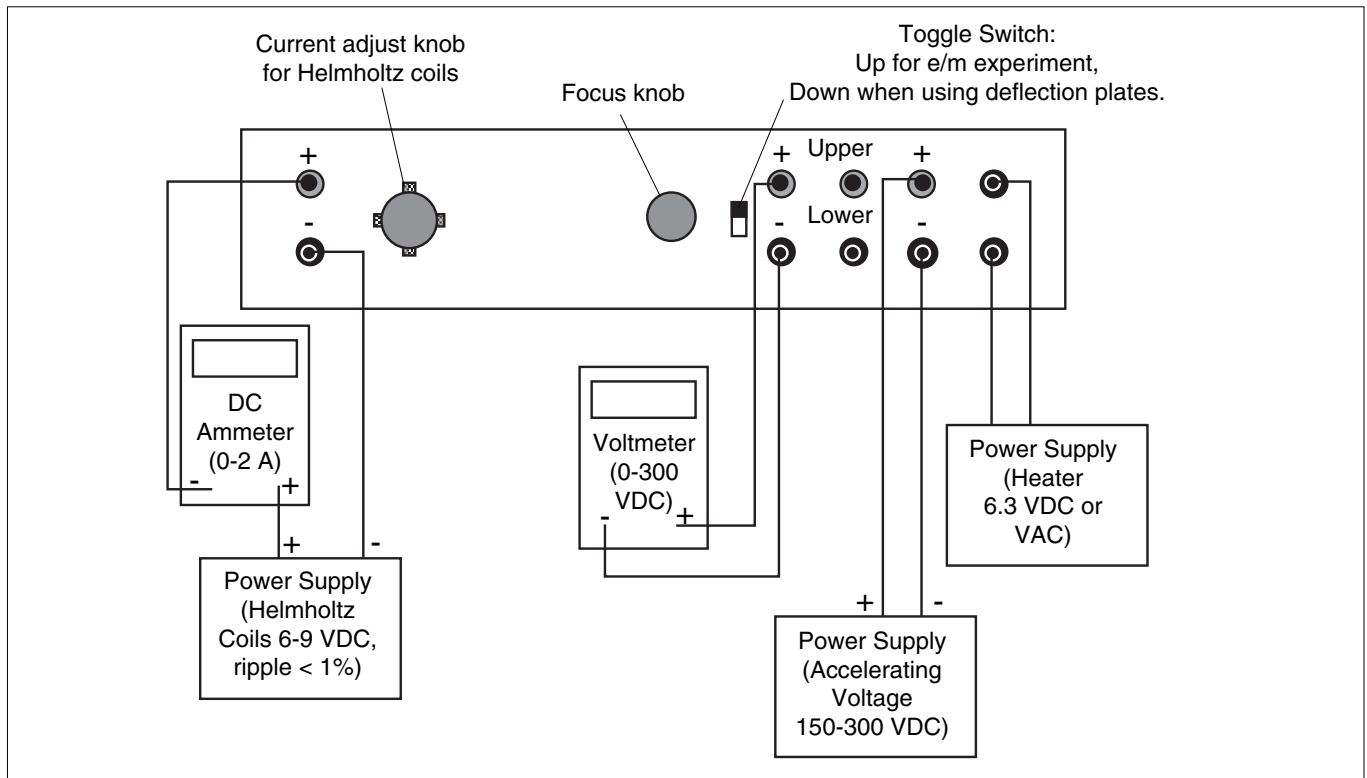

Figure 4 Connections for e/m Experiment
4. Connect your power supplies and meters to the front panel of the e/m apparatus, as shown in Figure 4.